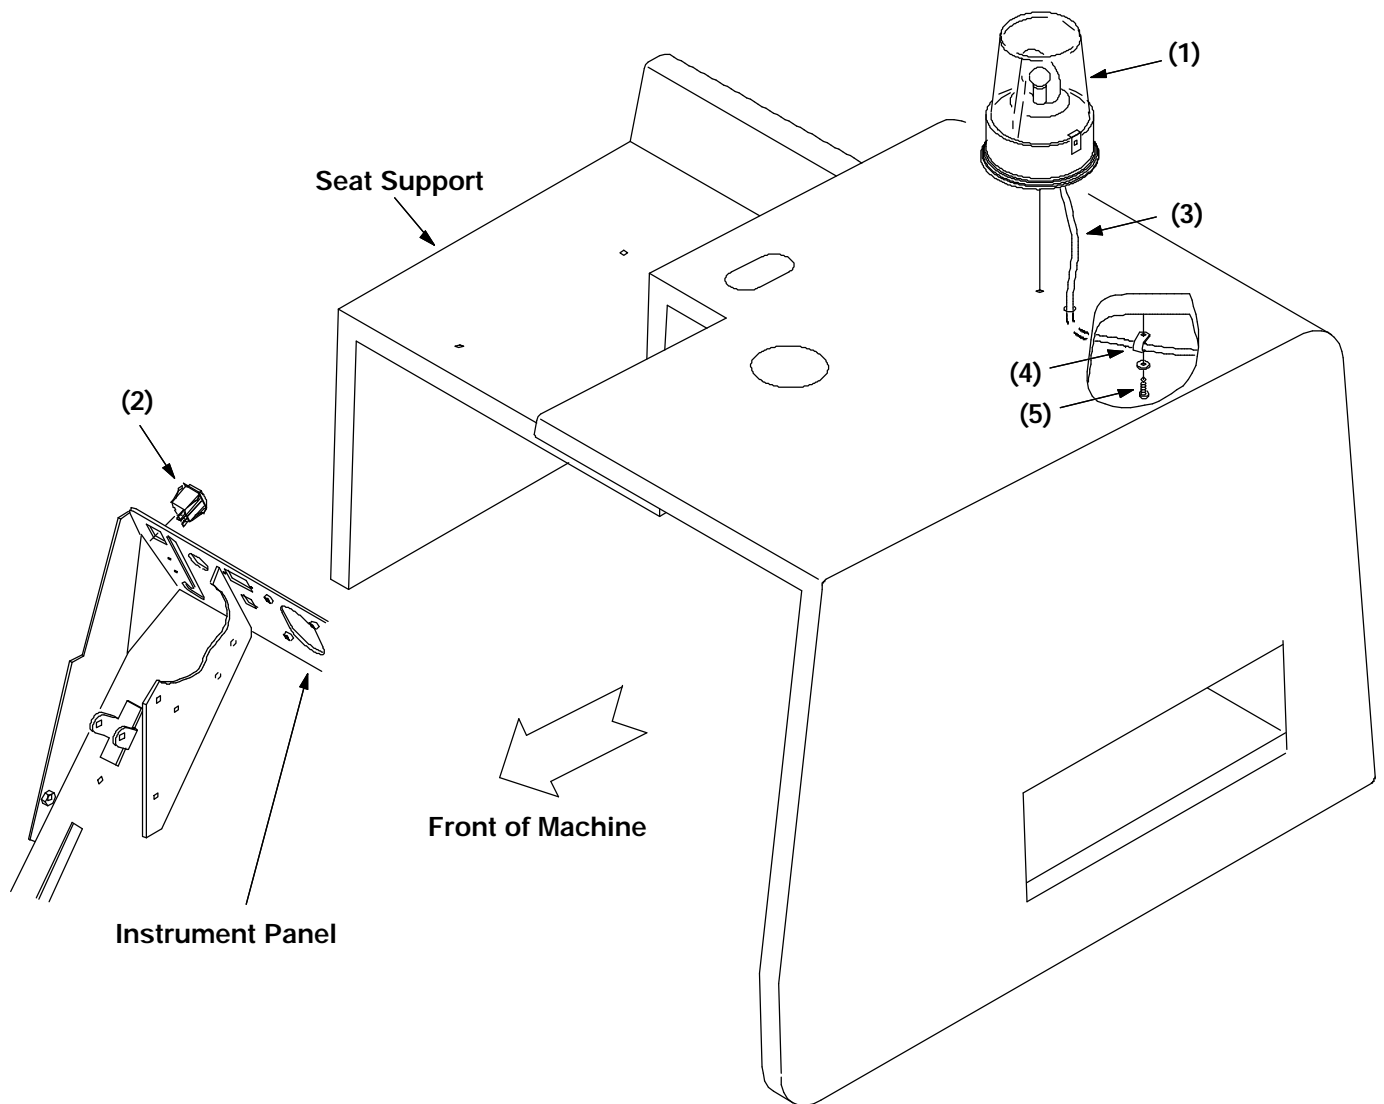

FIG. 2 - Installation of Revolving Light and Switch
7. Route wire harness (3) through 1/2" hole in shroud. (Refer to FIG. 2)
8. Connect wire harness (3) (wires 13DA/BLK and 75C/ORA) to revolving light (1).
9. Install revolving light (1) using hardware provided in light kit.
10. Plug the other end of the wire harness (3) (wires 13DA/BLK and 75C/ORA) into plug on main wire harness located near the left taillight (wires 13Q/BLK, 13R/BLK, and 75/ORA).
13. Secure wire harness (3) to shroud near where light is mounted with cable clamp (4) and screw (5) as shown in FIG. 2.
14. Use pre-drilled holes in louver flange to secure wire harness with cable ties (6).